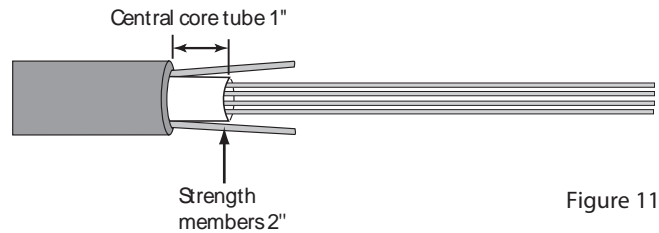

Figure 11
4. Ring cut the core tube 1" from the sheath ring cut and remove core tube. Clean exposed fibers or ribbons with approved degreaser. (Fig. 11)